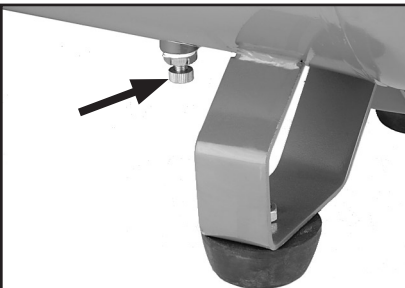

Figure 13. Tank drain valve.
1. Leave the tank pressurized and open the drain valve, shown in **Figure 13**, to drain the water out of the tank.